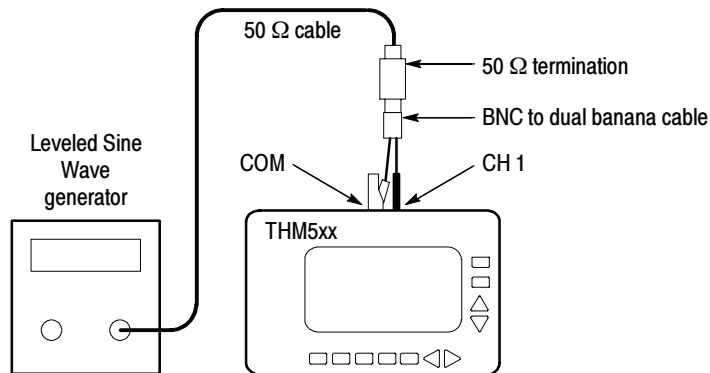

Figure 8: Analog bandwidth test setup
- 1. Connect the leveled sine wave generator output to the THM500 series instrument CH 1 and COM inputs. Use a 50 Ω termination as shown in Figure 8. Assure that the ground connection for each adapter connects to the common (or ground) connector of its associated instrument.